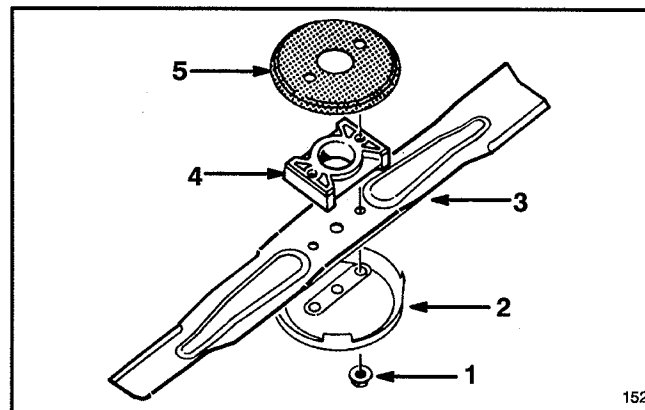

Figure 25
- REMOVING BLADE**—Grasp end of blade using a rag or thickly padded glove. Remove blade nuts, anti-scalp cup, blade, blade spacer and rotating screen (Fig. 25).